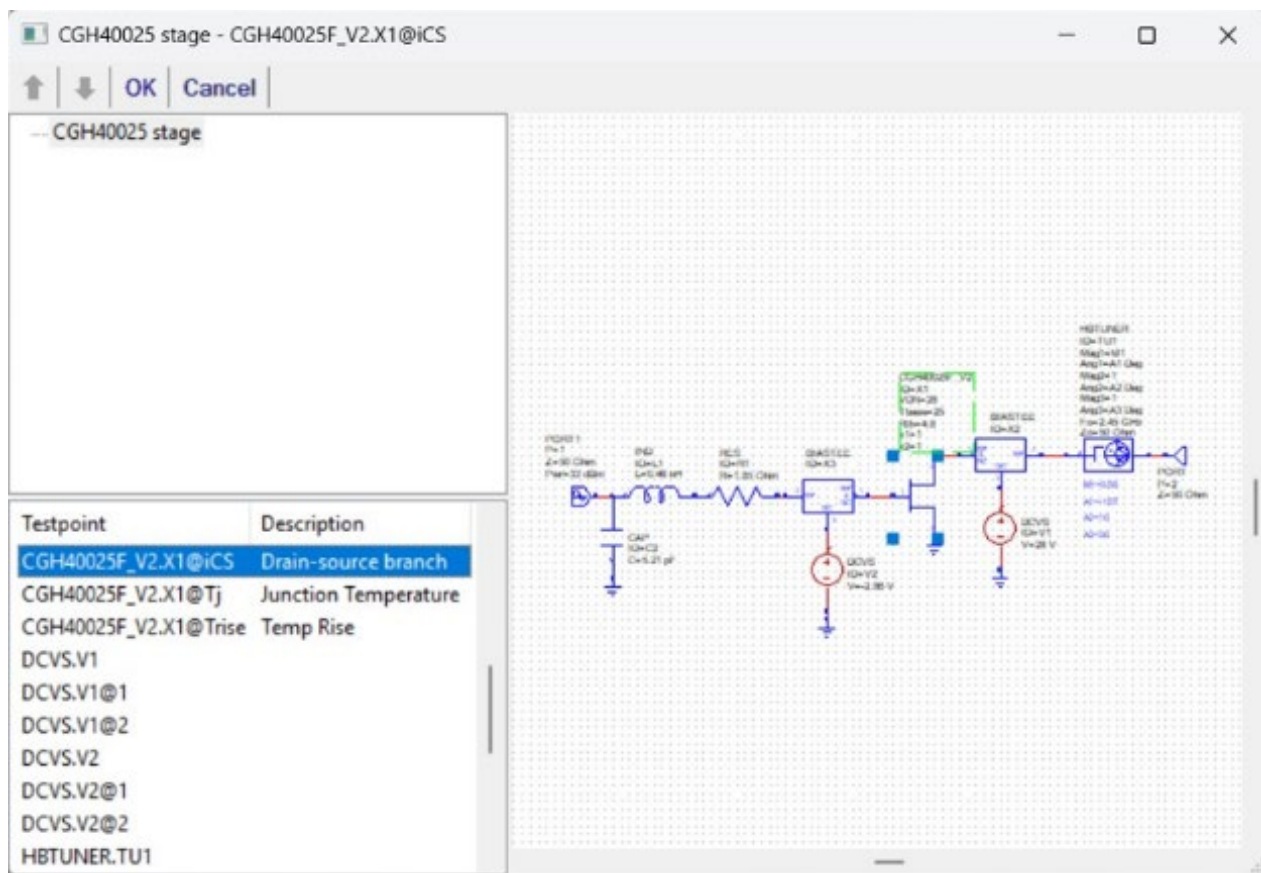

Figure 6
6. Click the  button to open the selection window as per Figure 6, then select the “Drain-source branch” of the transistor model first for voltage and then for the current measurement. This fundamental load-line, a pure sinusoid, is formed by the voltage and current across the intrinsic generator of the transistor model.